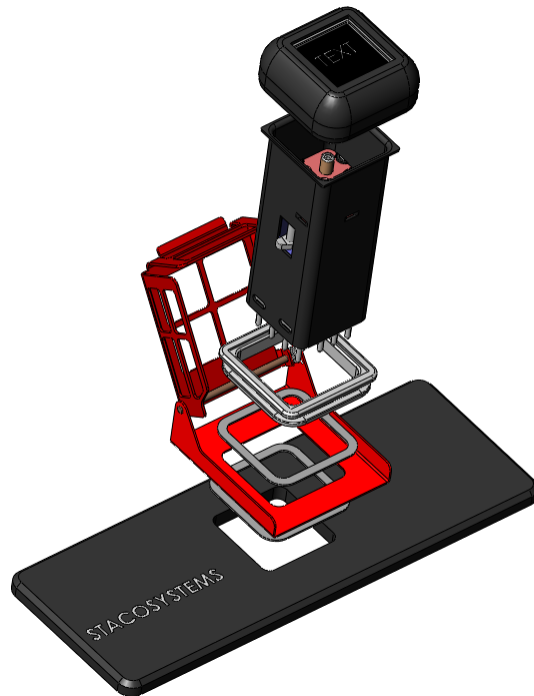

FIGURE 7 – EXPLODED PREASSEMBLED VIEW
4. INSTALL SWITCH AS SHOWN INTO PANEL. SEE FIGURES 7 AND 8. DO NOT INSTALL PUSHBUTTON ONTO SWITCH ASSEMBLY.